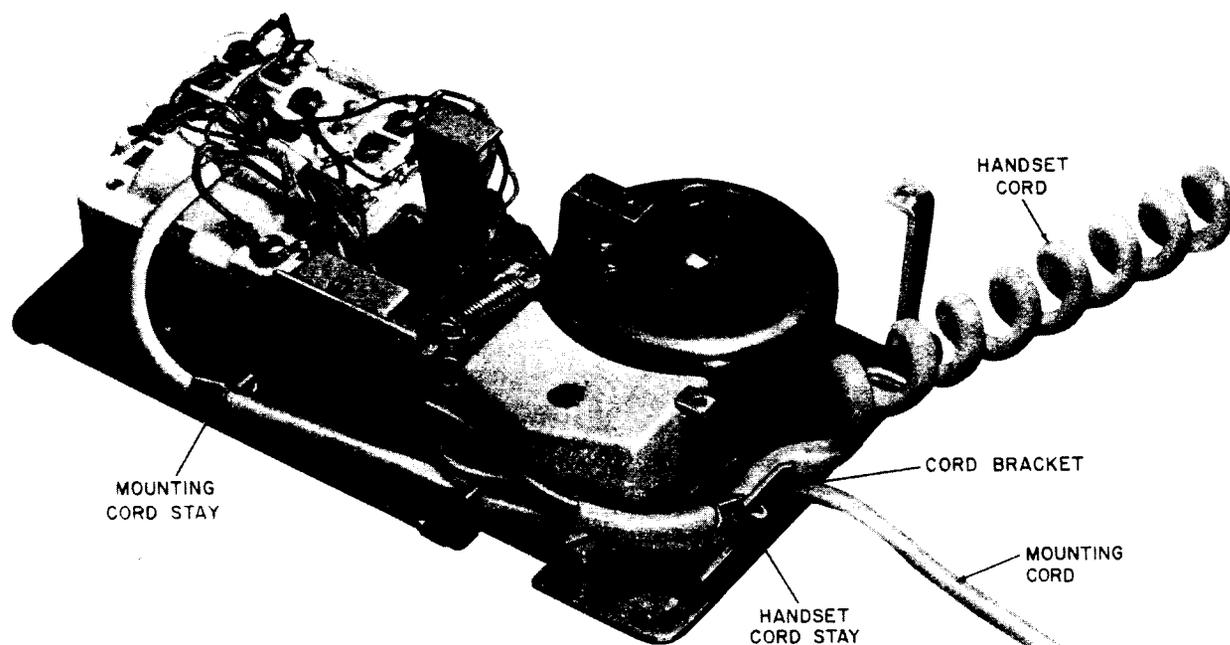

Fig. 2—Installation of Mounting and Handset Cords
- (1) Install set end of D3BN mounting cord, route through cord bracket and secure cord stay to base (Fig 2).
- (1) Install set end of H4CJ handset cord through cord bracket, lay on top of mounting cord (Fig. 2). Secure cord stay to base.